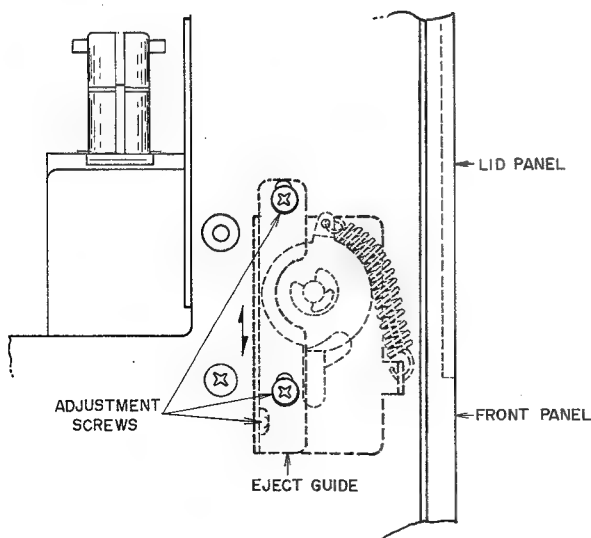

Fig. 13 Left Side of the Deck
7. LID PANEL POSITION ADJUSTMENT (Refer to Fig. 13)
In case the lid panel is not level with the front panel, adjust by shifting the eject guide as indicated by the arrow mark in Fig. 13. If the upper part of the lid panel is tilted inward, move the eject guide upward, and if tilted outward, move the eject guide downwards.